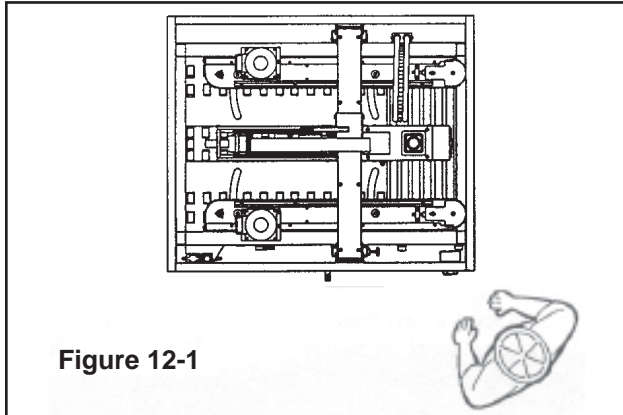

Figure 12-1
12.1 Operator's Correct Working Position and Operational Flow (Figure 12-1).